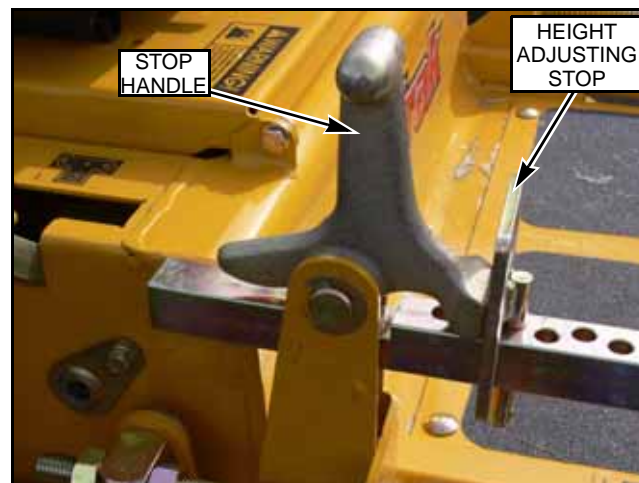

Fig. 9-37
NOTE: Remove the height adjusting stop and let the deck down so that it rests on the 3" blocks. Make sure the deck is setting on all four blocks. Leave the height adjusting stop out of the height adjusting bar for now. The deck should be leveled before the cutting height is set. Fig. 9-37
10. To Adjust the deck height, insert the height adjusting stop into the 3 ¼" position. Fig. 9-37